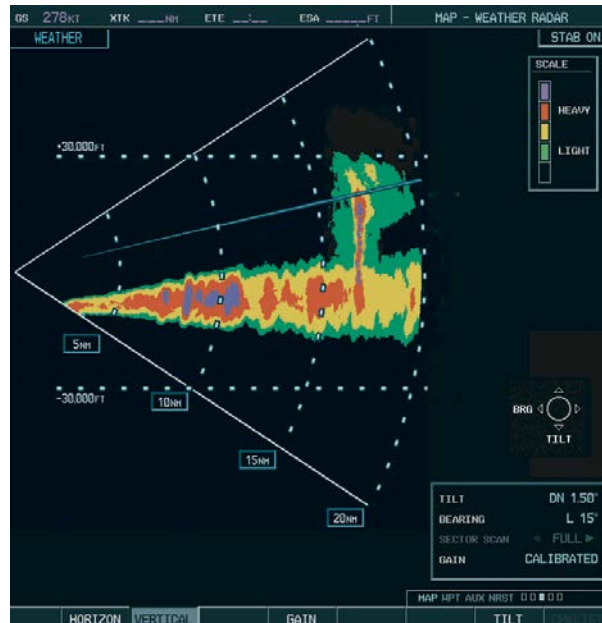

Figure 6-104 Vertical Scan Display
- 4) Select the **VERTICAL** Softkey. A vertical scan of the selected area is now displayed (Figure 6-104).